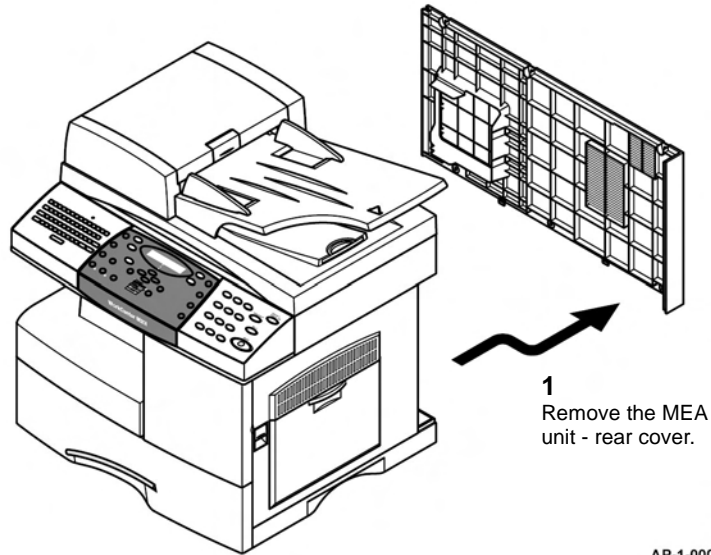

Figure 2 MEA unit - rear cover removal
2. Separate the MEA unit - rear cover from the ELA HOU - base frame assembly and ELA HOU - scanner assembly, Figure 2.